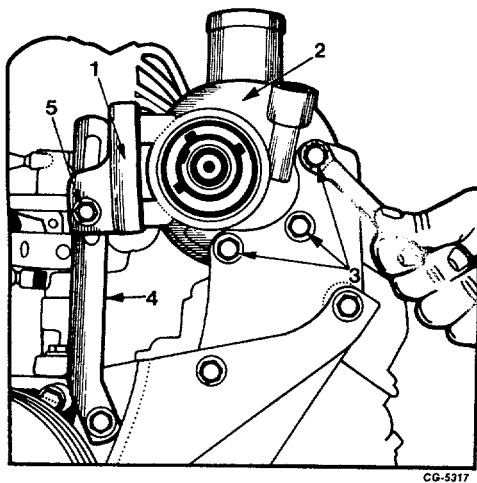

Fig. 24 Removing Power Steering Pump
20. Remove bolts and flat washers securing power steering pump to bracket, Figure 24. Remove adjusting strap bolt and remove power steering pump with side bracket.